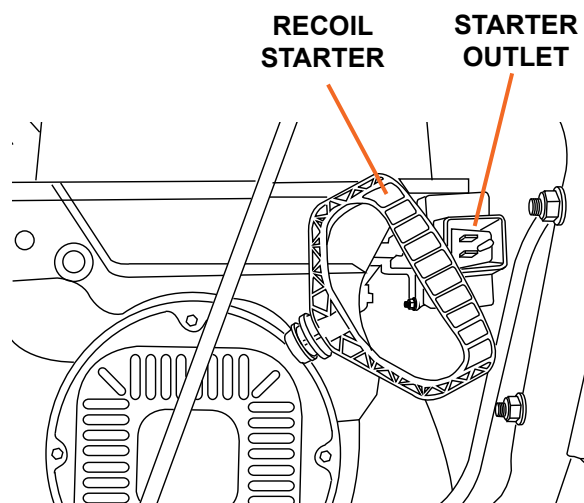

Figure 10
1. Connect extension cord to the starter outlet on the engine and into a 120V AC outlet (see Figure 10).